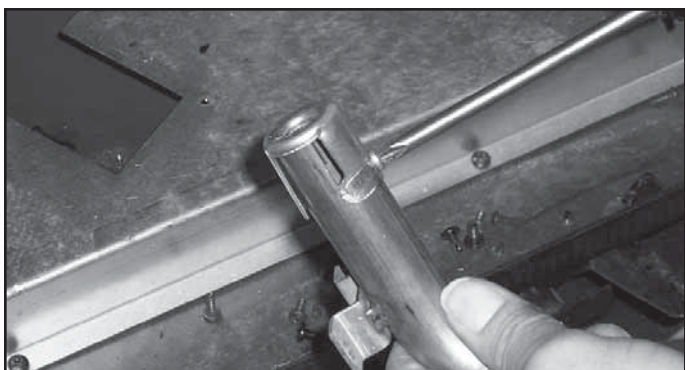

Figure 15.5 Outside Burner Tube Air Shutter Adjustment
- Outside burner tube air shutters may be adjusted as shown in Figure 15.5.